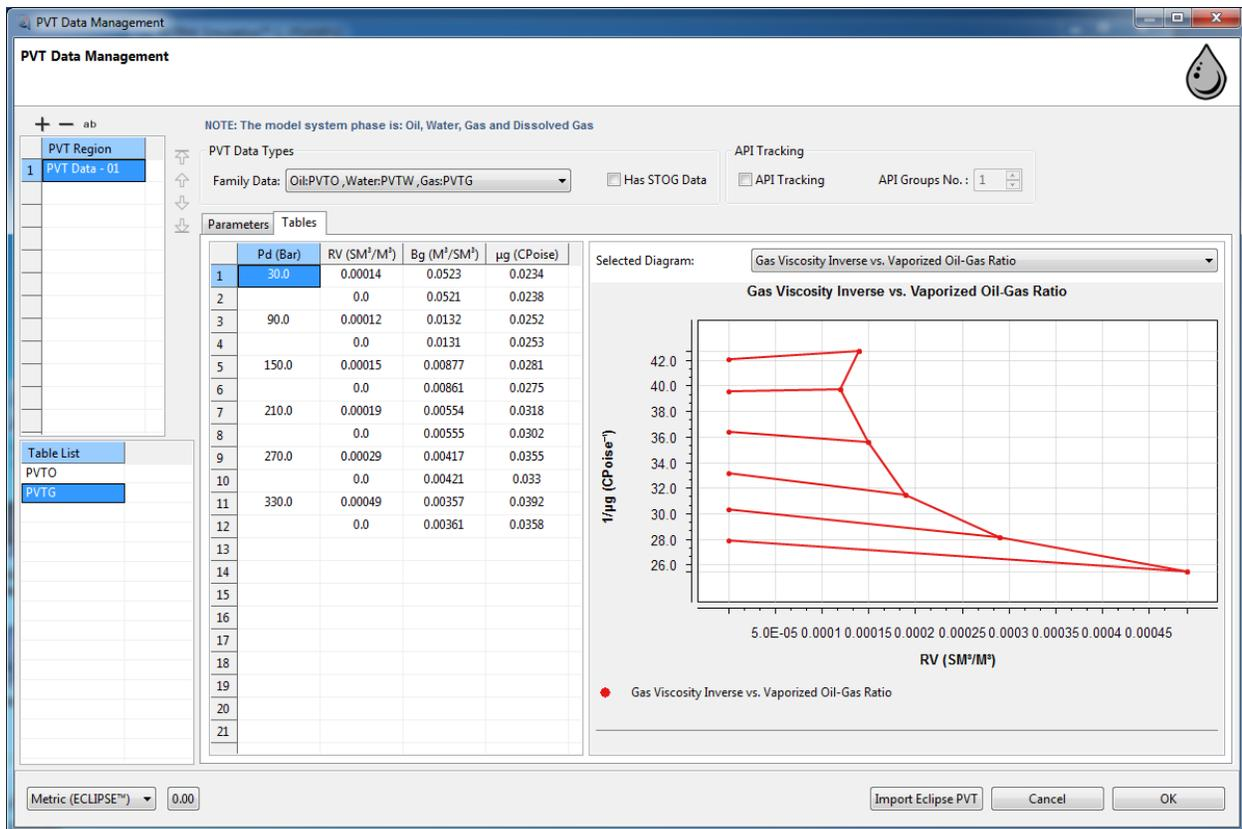

Figure 97 A Typical PVTG Table and Curves
the highest  $P_g$  in each table. The additional data takes the form of three columns which continue from items 2, 3 and 4 above. In such cases, the values of  $R_v$  must decrease down the column (starting from the value for saturated gas); There must be the same number of entries in each column. If no additional data is supplied for a particular value of  $P_g$ , it locates the next higher value of  $P_g$  for which under saturated PVT data is available, and takes a scaled copy of the formation volume factor and viscosity curves supplied there. The typical PVTG table and curves have been displayed in the Figure 97.
Always PVTG tables contain additional data that defines the properties of under saturated gas at the specified value of gas phase pressure. This data must be specified for the highest  $P_g$  in each table. The additional data takes the form of three columns which continue from items 2, 3 and 4 above. In such cases, the values of  $R_v$  must decrease down the column (starting from the value for saturated gas); There must be the same number of entries in each column. If no additional data is supplied for a particular value of  $P_g$ , it locates the next higher value of  $P_g$  for which under saturated PVT data is available, and takes a scaled copy of the formation volume factor and viscosity curves supplied there. The typical PVTG table and curves have been displayed in the Figure 97.